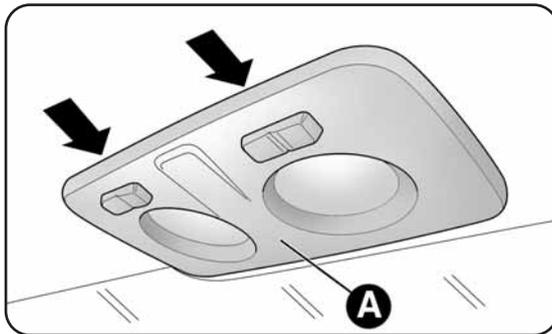
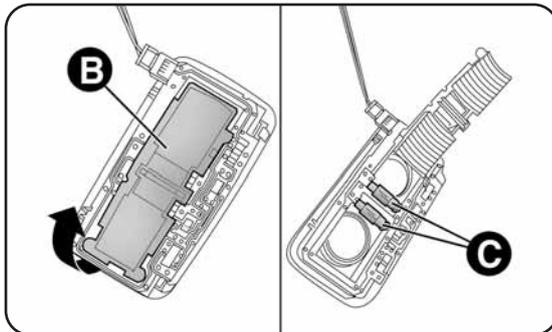

fig. 26
fig. 27
- remove the roof light A-fig. 26 by acting on the points shown by the arrows;
- open the protective flap B-fig. 27;
- close the lid B-fig. 27 and fasten the roof light A-fig. 26 in its housing, making sure it is locked correctly.
IMPORTANT In some versions, the roof light in fig. 26 is at the back (electric sun roof version). To replace the relevant bulbs, refer to the procedure described in paragraph “Front roof light” in this chapter.